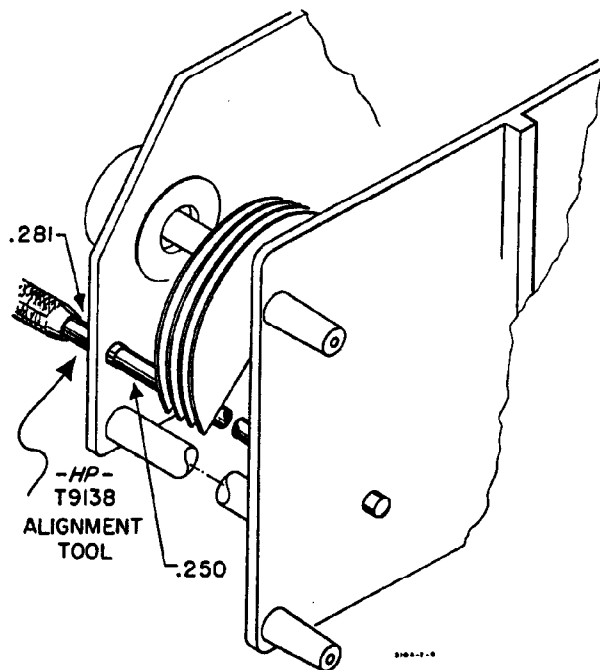

Figure 5-6. Rotor Alignment
- d. Set frequency counter to read 1490. Insert alignment tool (© Stock No. T9138) into the .281-inch-diameter holes of the two castings. Remove tape from rotor and rotate rotor until the flat edge of the plates rests gently against the alignment tool. Refer to Figure 5-6.